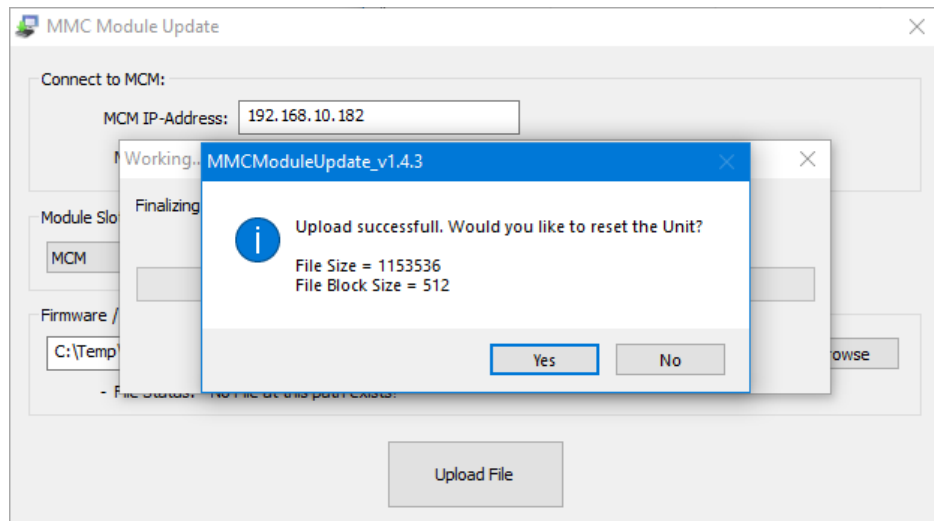

Figure 26. Successful Firmware Update
7. Click the Upload File button when ready. Wait about one minute, until the firmware upload finishes, as seen in Figure 26, Click the No button to skip resetting the MCM when the firmware loaded successfully (will reset the MCM later).